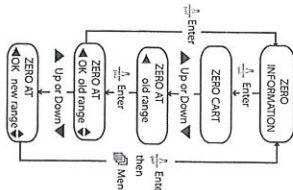

Figure 4-3
- To change the cartridge zero range (Figure 4-3):
Use this process only for the primary, or most frequently used, cartridge. In this process, you set the zero reference of the elevation knob by aligning the "0" mark on the knob with the preferred index marking on either the right or left side of the BORS housing. Referring to Figure 4-3, follow the steps below to zero the cartridge.